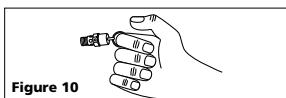

Figure 10
1. Pull ring on safety valve and allow the ring to snap back to normal position (See Figure 10). This valve automatically releases air if the tank pressure exceeds the preset maximum.